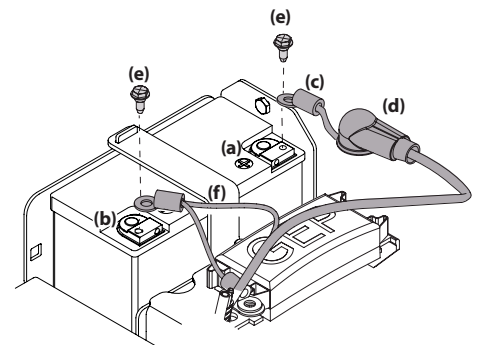

Figure 21
NOTE: The positive battery terminal is marked POS. (+) (a). The negative battery terminal is marked NEG. (-) (b). See Figure 21.
2. Slide the red boot (d) from the positive battery terminal (a) and attach the red cable (c), with the vertical mount bolt (e). See Figure 21.
3. Position the red boot (d) over the positive battery terminal (a) to insulate it and help protect it from corrosion. See Figure 21.
4. Attach the black cable (f), to the negative battery terminal (b) with the vertical mount bolt (e). See Figure 21.